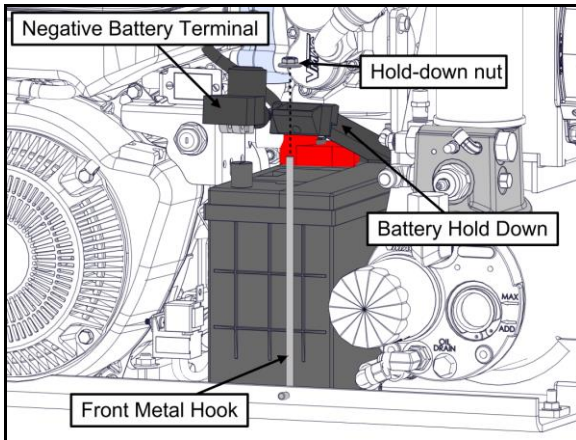

Figure 67 – Battery hold down
- 1) Remove the shroud and disconnect the negative battery cable. Undo the nut on the top of the battery hold down and lift the hold down off of the battery, remove the front metal hook (Figure 67).